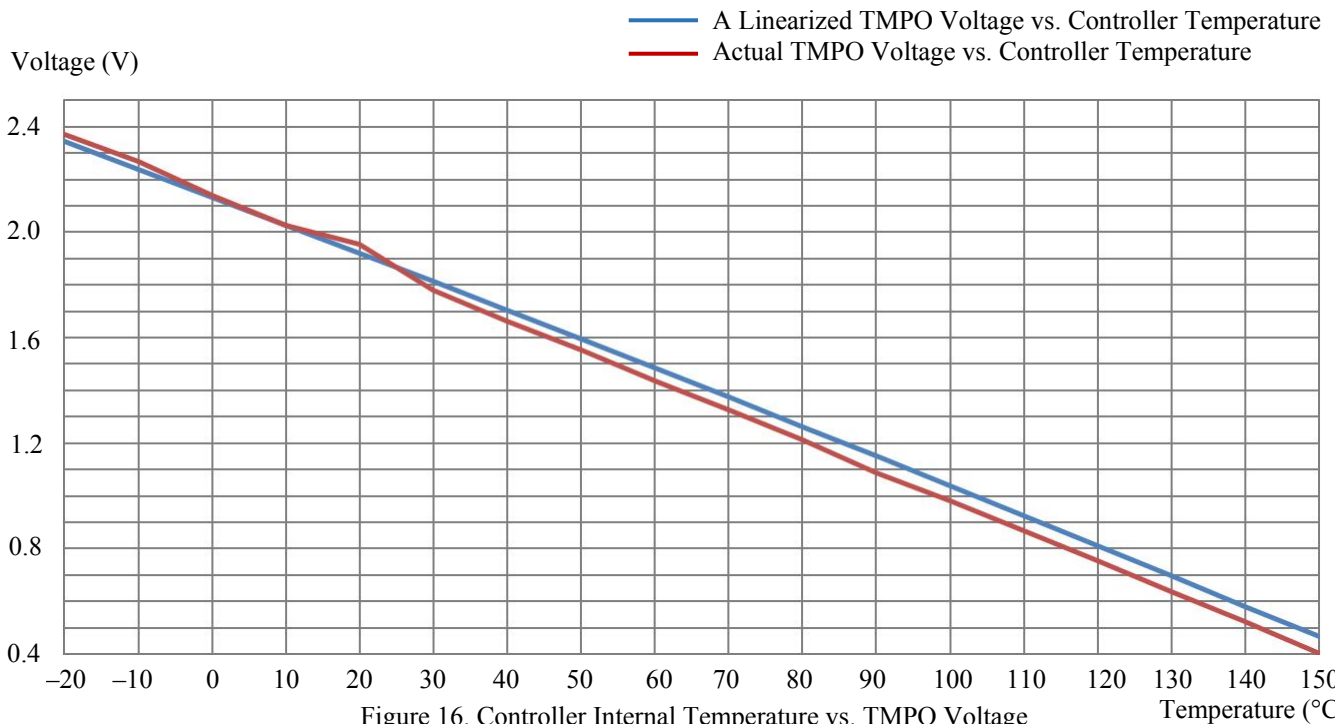

Figure 16. Controller Internal Temperature vs. TMPO Voltage
Within the most commonly used temperature range of between $0^\circ C$ to $100^\circ C$, the maximum error occurs at about 1.5V, at which the temperature error between the calculated data by using the formula (1) and the approximated data obtained by using the linear equation (2) is about $0.4^\circ C$, with the linear data being a little lower. The curves of the 2 sets of the data are plotted in Figure 16.